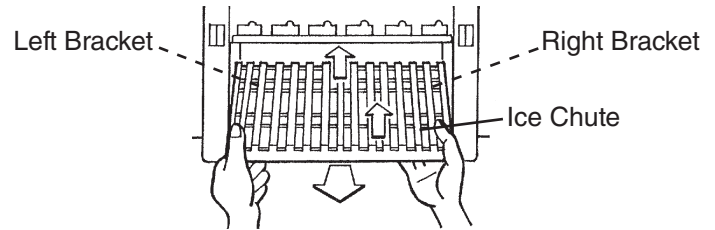

Fig. 41
- 6) Lift the ice chute up from the left and right brackets. See Fig. 41.